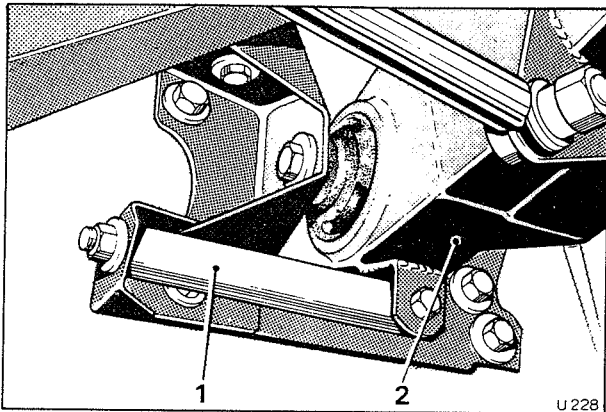

Fig. H4m Jury bolt in position
7. Remove one of the small dampers situated beneath each end of the rear crossmember and insert a jury bolt (RH 9575) as shown in figure H4m. With the jury bolt in position, replace the damper from the other end of the crossmember with a jury bolt.